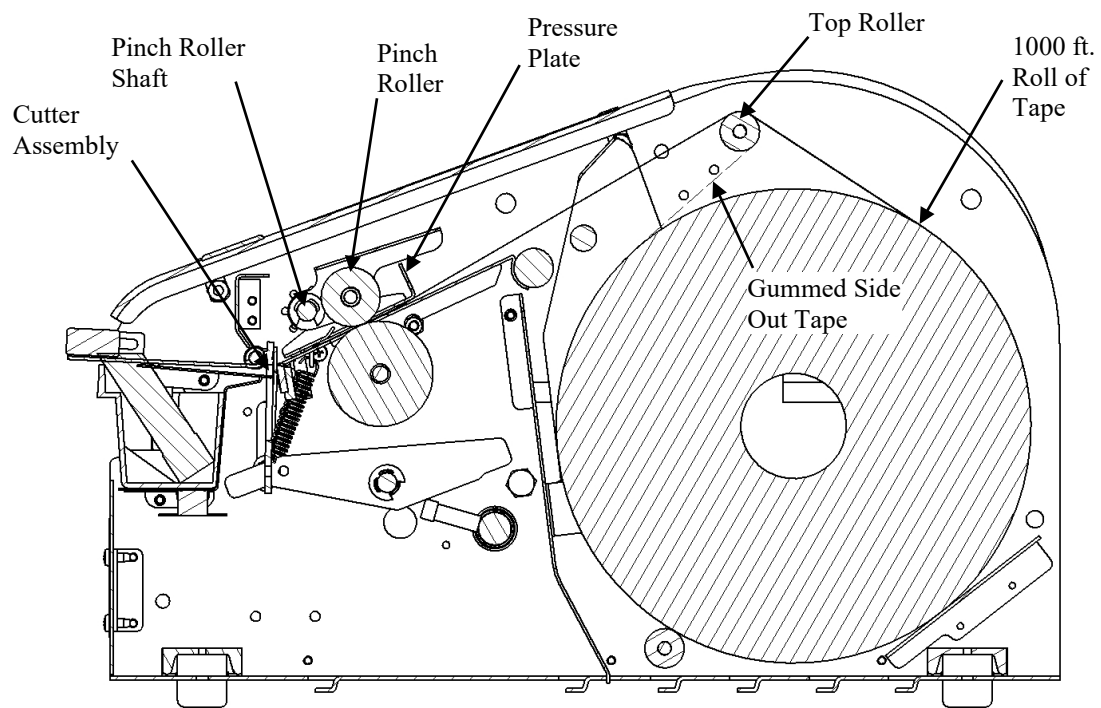

Figure 3 – Tape Routing
6. Feed the tape, gummed side down, over the top roller, under the tape guide flaps, and then under the pinch roller, see Figure 3.
3. Is the tape routed correctly?	Route the tape according to Figure 3 (p. 8).